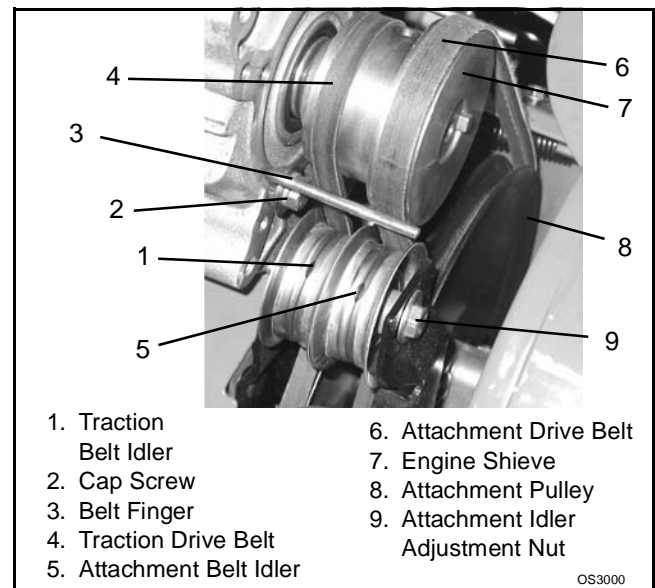

Figure 8
4. Loosen cap screws and carefully rotate belt fingers away from belt and sheave (Figure 8).
2. Check belt alignment (Figure 8).